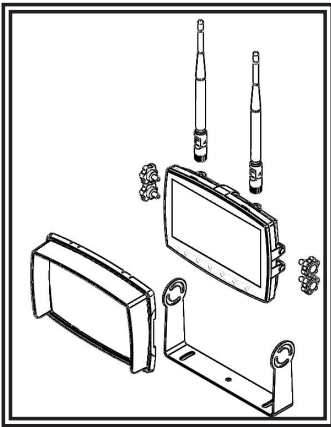

Figure 2
3. Install the monitor on the U-bracket as shown in Figure 2. Adjust the monitor's position for the best viewing angle before tightening the two screws on each end.